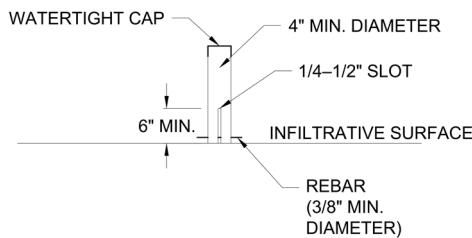

Figure 4. Observation pipe detail.
5. Install the observation pipe with the bottom 6 inches of the observation pipe slotted. It is recommended to wrap geotextile around the slots. Installation of the observation pipe includes a suitable means of anchoring (Figures 4 and 5).